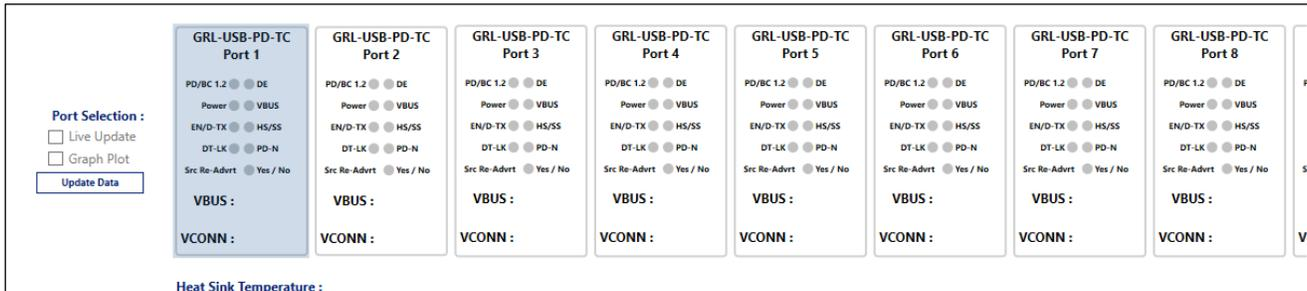

Figure 40. Select Port for VCONN Load Test
1. Select the port which you are going to use for the VCONN load test, as shown in Figure 40.